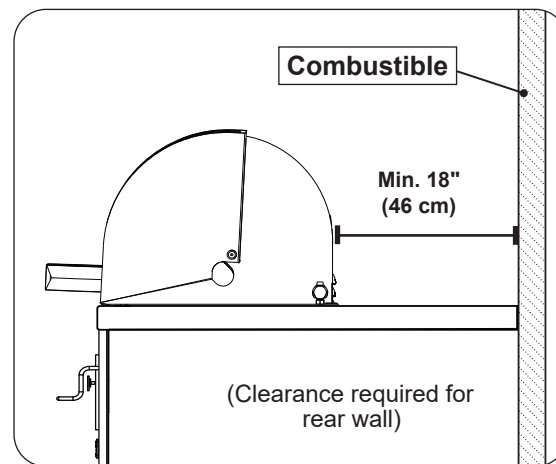

Fig. 7-2 Clearance 'B' Diagram
- The unit must have a minimum clearance of 18" (46 cm) from the combustible rear wall (see Fig. 7-2).